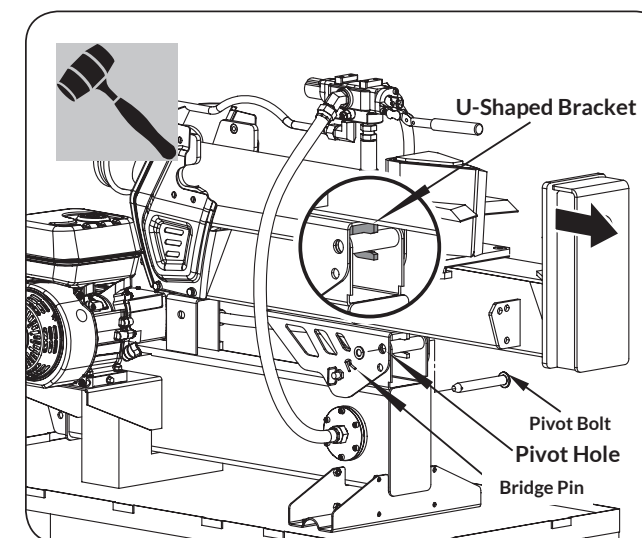

Figure 2a
1. Slowly pull the beam in a straight line until the pivot casing in the tank pivot mount is locked by the U-shaped bracket in the beam. Then make sure the hole in the beam pivot bracket aligns with the pivot hole in the tank pivot mount. (See **Figure 2a**.)